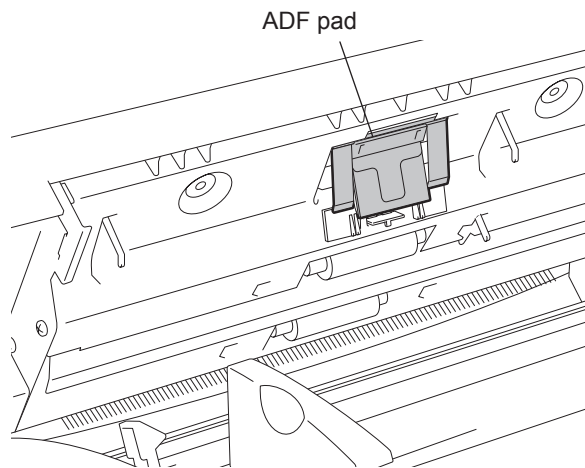

Fig. 10-4
- 3) ADF pad (P.10-5 "Fig. 10-4")